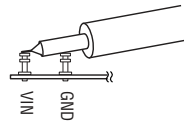

Figure 2. Measuring Input or Output Ripple
**NOTE:** When measuring the input or output voltage ripple, care must be taken to minimize the length of oscilloscope probe ground lead. Measure the input or output voltage ripple by connecting the probe tip directly across the  $V_{IN}$  or  $V_{OUT}$  and GND terminals as shown in Figure 2.